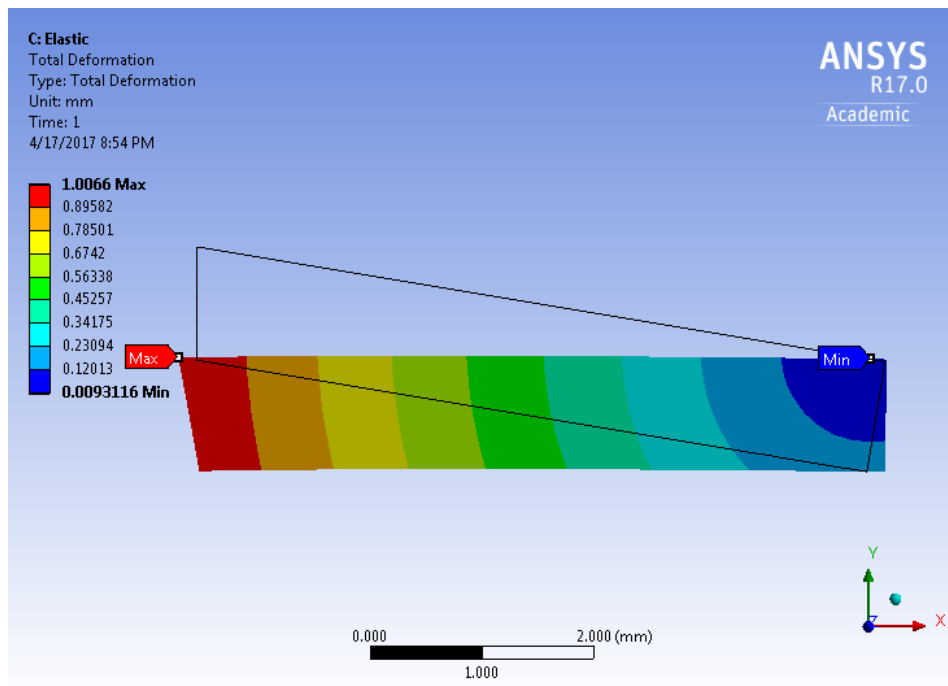

Figure A.3: Linear-elastic- Total Deformation (t=1 s)
- **Linear elastic analysis:** $F_1=1450\text{ N}$ (Figure A.3)